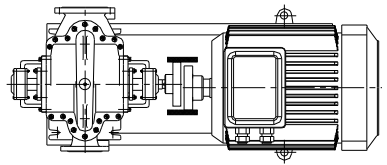

Fig 6c. Parallel sliding error in horizontal plane and adjustment.
- In order to control the parallelism mistake, a gauge with straight edge is pressed on a part of the coupling in parallel to the axis and the position of the gauge related to other part is observed. The gauge should contact with both two parts simultaneously and along its entire edge. This process should be performed at two opposite places on the horizontal and vertical plane (**Figure 6c, 6d**).